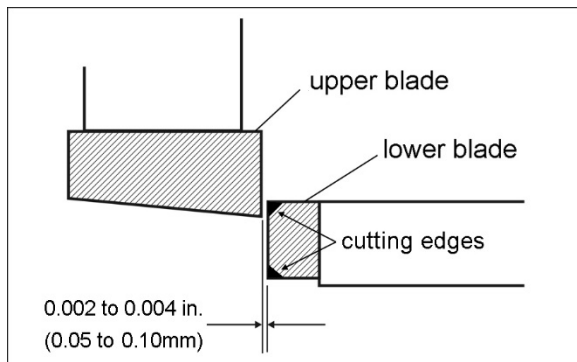

Figure 6-3: gap set for 16ga. material
4. As a general rule, blade gap should be approximately 6% of stock thickness. For precise measurement, slide a feeler gauge (not provided) between upper and lower blades. Blade gap should be approx. 0.002 to 0.004-inches (0.05 to 0.10mm). See Figure 6-3.
Maintain sharp blades. If they become dull, re-sharpen or replace. NOTE: The two lower blades are double-edged; if one edge becomes dull, remove blade from table and flip it end-for-end for a fresh edge. See Figure 6-3 for identification of the cutting edges.